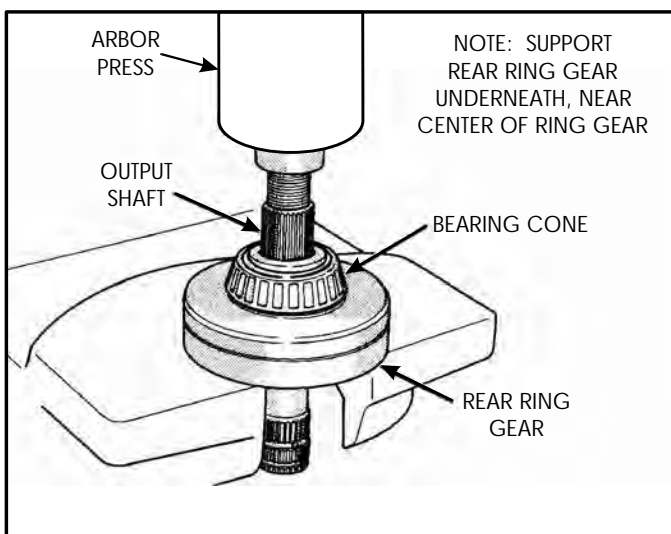

Figure 166
3. Remove the output shaft from rear planetary ring gear using press (See Figure 166).